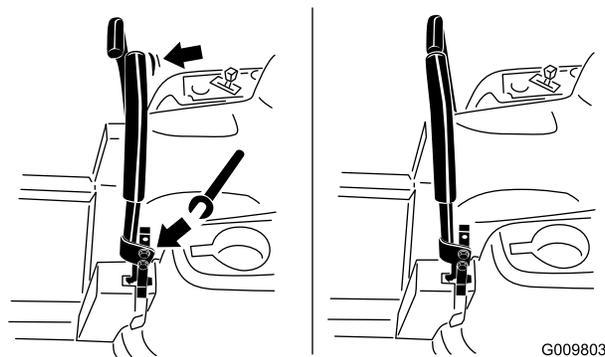

Figure 5
- 4. Verify the motion control levers are properly aligned (Figure 5). Adjust as necessary. Tighten all fasteners.